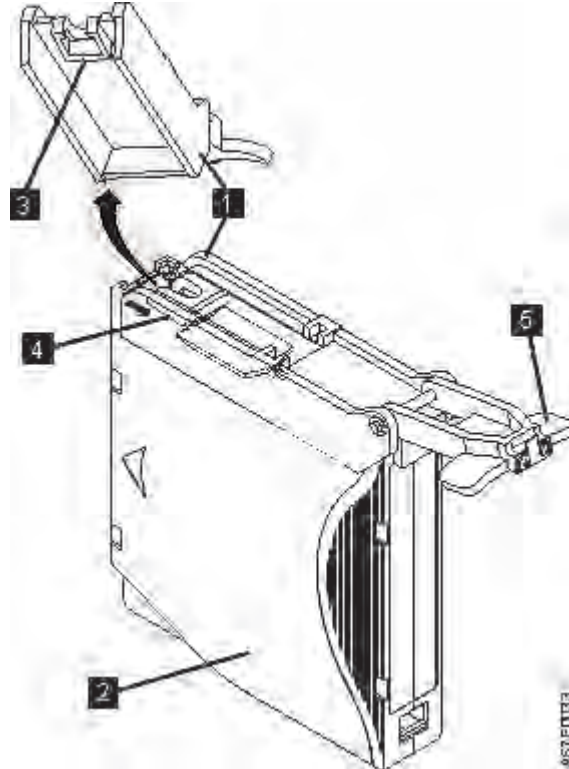

Figure 106. Attaching the leader pin attach tool to the cartridge
1. Attach the leader pin attach tool (1 in Figure 106 on page 226) to the cartridge (2) so that the tool's hook (3) latches into the cartridge's door (4). Pull the tool back to hold the door open, then slide the tool onto the cartridge. Open the tool's pivot arm (5).